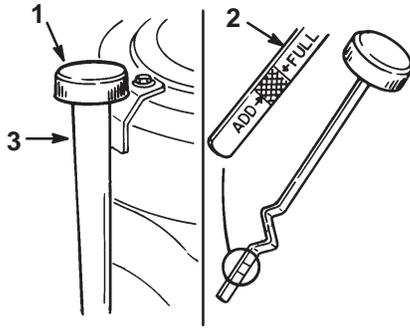

Figure 20
3. Clean around the oil dipstick (Fig. 20) so dirt cannot fall into the filler hole and damage the engine.
4. Unscrew the oil dipstick and wipe the metal end clean (Fig. 20).
5. Slide the oil dipstick fully into the filler tube, do not thread onto tube (Fig. 20). Pull the dipstick out and look at the metal end. If oil level is low, slowly pour only enough oil into the filler tube to raise the level to the full mark.
7. Slowly pour approximately 80% of the specified amount of oil into the filler tube (Fig. 20). Now check the oil level; refer to Checking Oil Level, page 24. Slowly add additional oil to bring to full mark on dipstick.